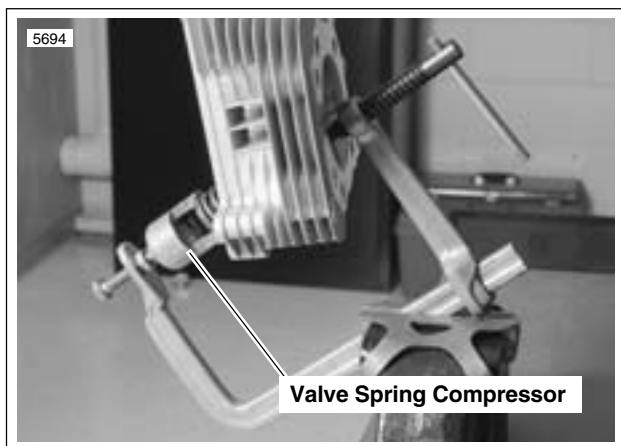

Figure 3-10. Valve Spring Compressor
1. See Figure 3-10. Compress valve springs with VALVE SPRING COMPRESSOR (Part No. HD-34736B).